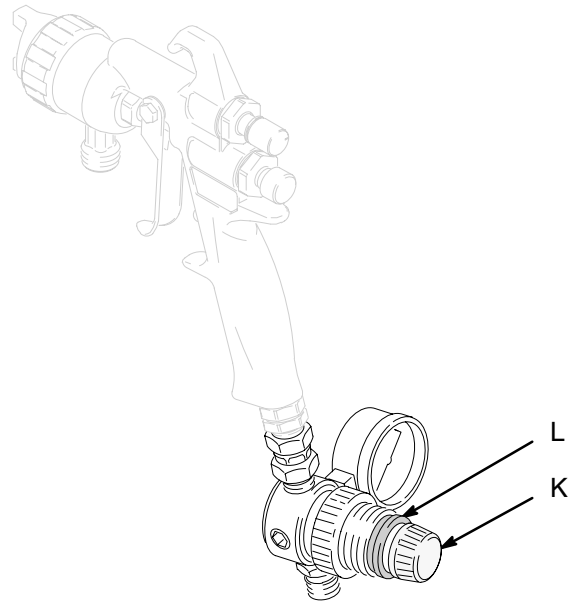

Fig. 5
1. Pull up the gun regulator adjustment knob lock-ring (L); this allows the knob to turn. See Fig. 5.
2. Set the gun air pressure at zero by turning the regulator adjustment knob (K) fully counterclockwise.
4. Turn the regulator adjustment knob (K) clockwise to increase the air pressure to the gun.